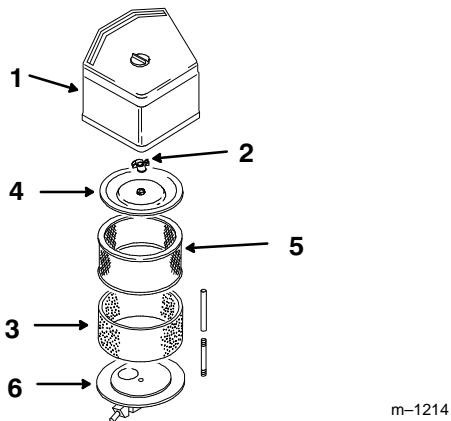

Figure 23
2. Clean around the air cleaner to prevent dirt from getting into the engine and causing damage. Unscrew the cover nut and remove the air cleaner cover (Fig. 23).
3. Remove the air cleaner assembly (Fig. 23).
4. Carefully slide the foam element off the paper element (Fig. 23).
- Carefully slide the foam element onto the paper air cleaner element (Fig. 23).
- Place the air cleaner assembly onto the air cleaner base (Fig. 23).
- Install the air cleaner cover and secure with cover nuts (Fig. 23).